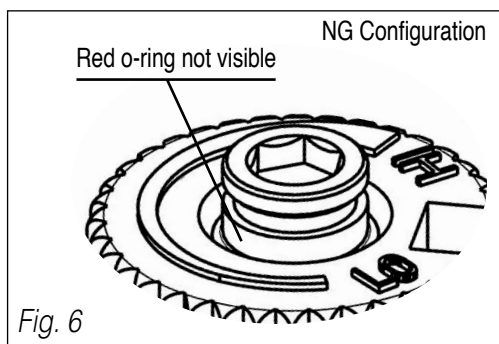

Fig. 6
- If the conversion is from LPG to NG, the red o-ring of the screw must be not visible (fig. 6).